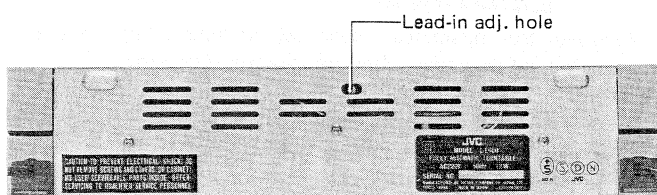

Fig. 12
6-(2) Lead-in adjustment (Fig. 12)